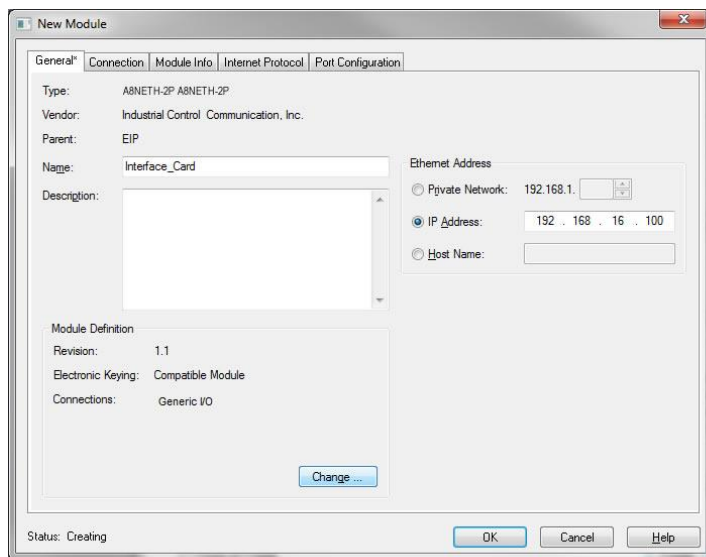

Figure 20: AOP Interface Card Module Properties
12) The “New Module” properties dialog box will open as shown in Figure 20.